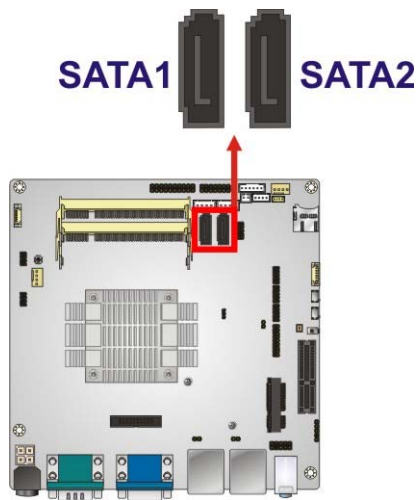

Figure 3-19: SATA 3Gb/s Drive Connector Locations
- CN Location:** See **Figure 3-19**